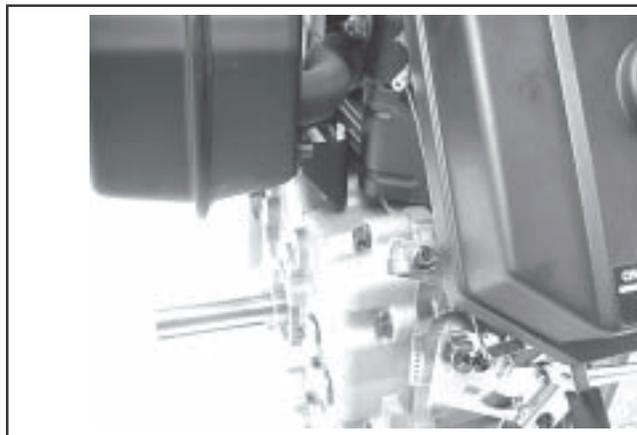

Figure 5-19. Remote Throttle and Choke Adjustment.
2. Install remote throttle cable in hole in the throttle lever. See Figure 5-19.